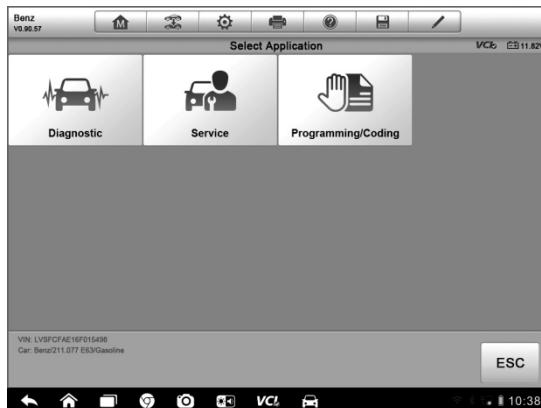

Figure 4-3 Sample Vehicle Diagnostics Screen
5. Tap **Done**. The vehicle will be identified in a few seconds, and once the matching is successful, the system will guide you to the Vehicle Diagnostics screen directly. (Figure 4-3)
9. Select **Yes** and the vehicle diagnostics screen displays. (Figure 4-3)
6. Select **Yes** and the Vehicle Diagnostics screen displays. (Figure 4-3)